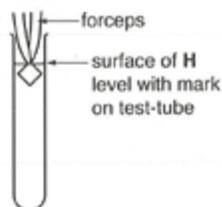

Fig. 1.1
- Hold the square just below the surface of H so that the top of the square is level with the surface of H as shown in Fig. 1.1.